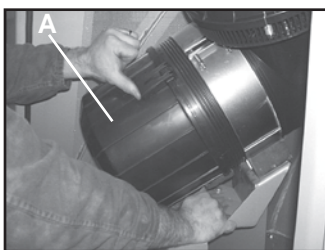

Fig.2
1) Release the 3 stops, and remove the cover (A fig.2).